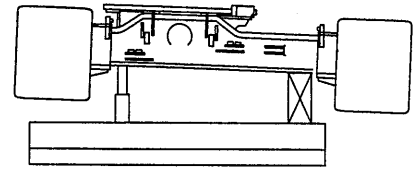

Fig. 11-42
- (4) Remove the wooden block on the side of the crawler to be retracted. Then, check that no obstacle is on the crawler retraction side, and set the crawler extension and retraction control lever to the "Retraction" side to retract the crawler. (Fig. 11-42)